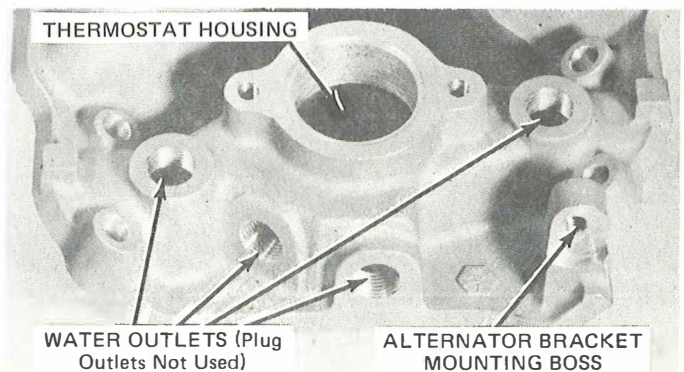
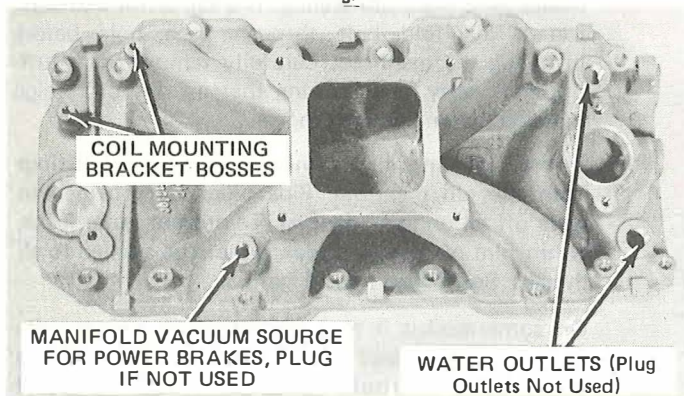

Fig. 1
Fig. 3
17. Before installing new manifold, transfer all fittings from the old manifold. Pipe plugs are provided to close off all unused openings. To prevent water leaks, a thin film of silicone sealant should be applied to all threads. See Figure 1 and Figure 3.
26. Install ignition coil, reposition coil in bracket, if necessary, and attach all wires. See Figure 3.
28. If vehicle is equipped with power brakes install power brake line in machined hole on Runner No. 8. This is a "dead-end" vacuum requirement and will not affect flow through the runner. See Figure 3.